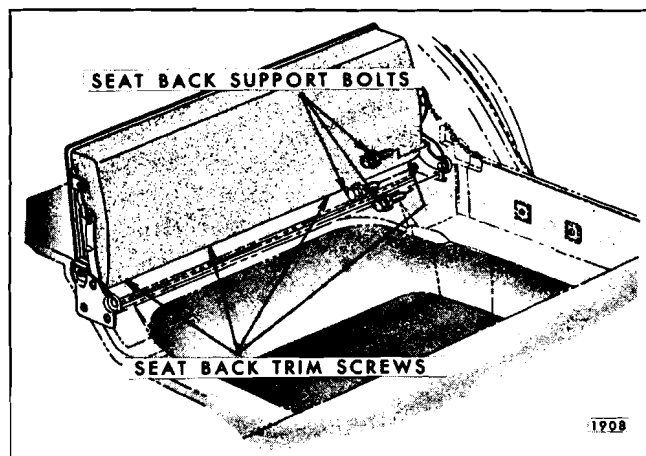

Fig. 15-74—Folding Third Seat Back
2. Remove four screws securing lower edge of seat back trim to seat back panel. (See Fig. 15-74).